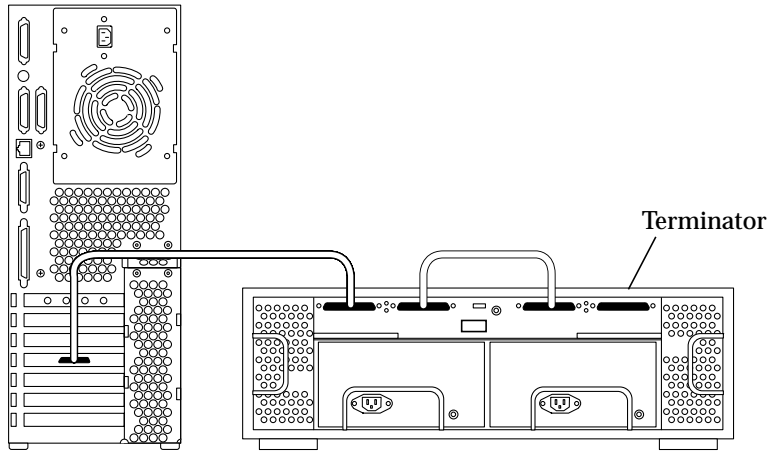

FIGURE 1-3 A Single Sun StorEdge D1000 Connected to a Single Host
- As a single box of disks attached to a single host (FIGURE 1-3)